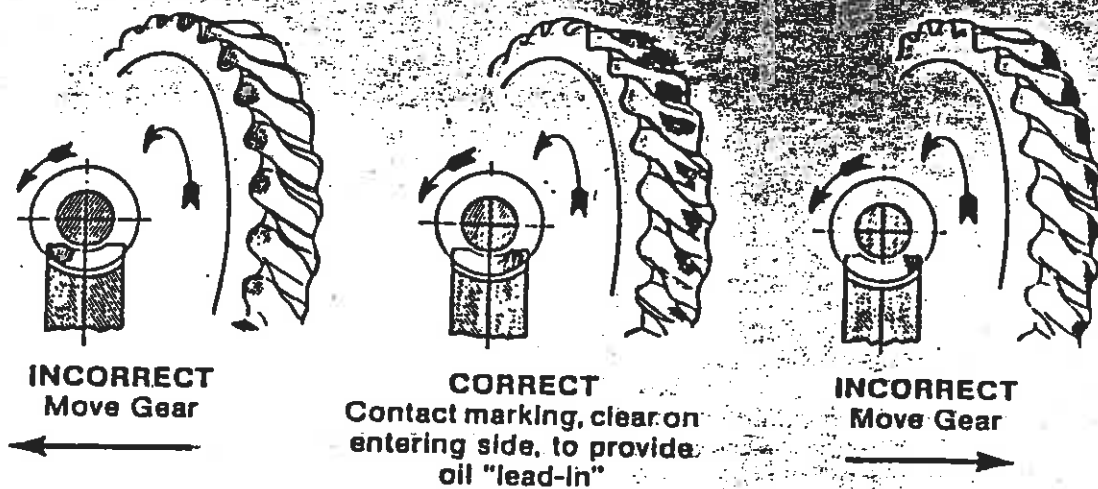

Figure 6 Gear Contact Pattern:
- E. Use a rag to apply hand pressure to the output shaft and rotate the high speed shaft until output key is down. Return output shaft to original position by reversing rotation. Remove output shaft and seal cage to inspect contact. Compare with Figure 6. If contact is not correct move assembly in the direction shown in Figure 6 by adding shims to the side to which the arrow points after removing them from the opposite side. Repeat steps D and E until contact pattern is correct.